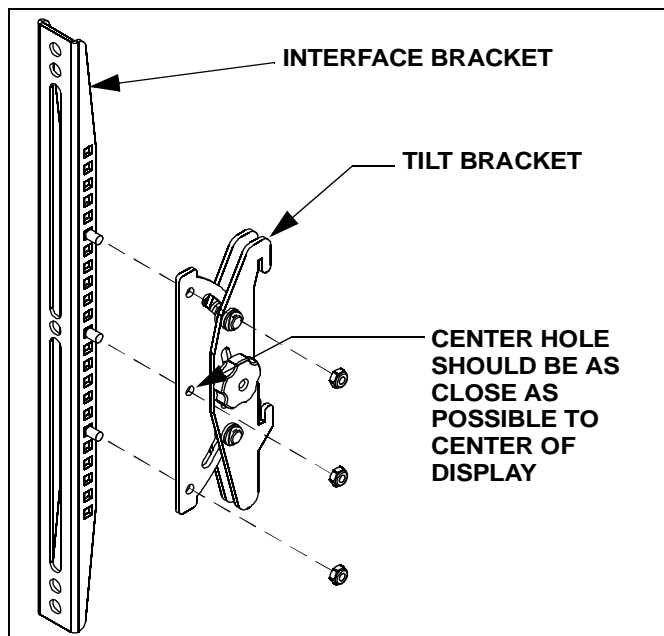

Figure 3
**NOTE:** The tilt brackets can be moved above or below the center line, as needed, to fit the application and/or the desired level. (See Figure 3)